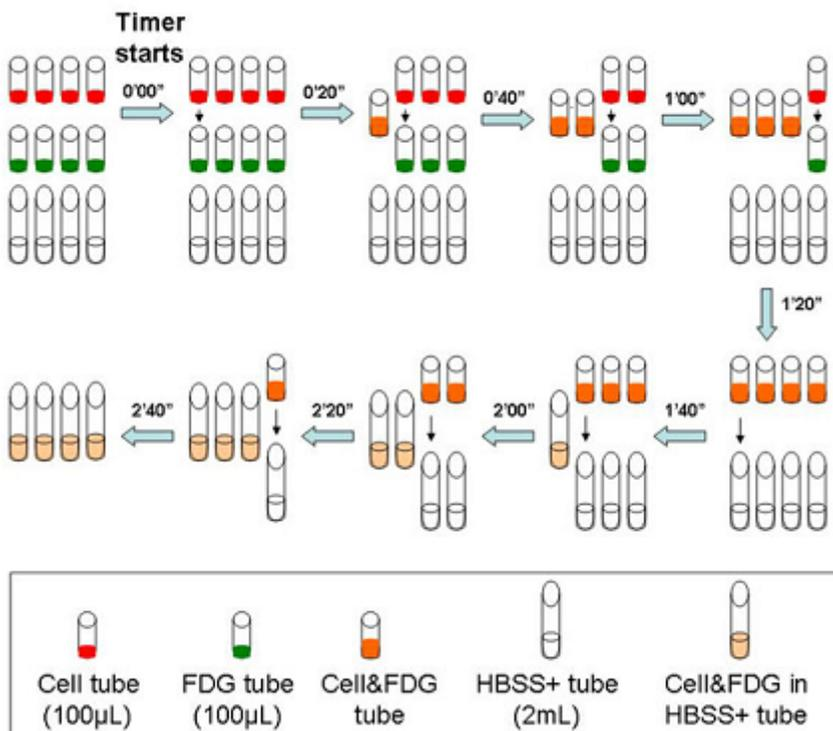

Figure 1
control stock solution by 1:10. Aliquote 100 μ L FDG working solution or control solution to amber tubes. c) Prepare 15mL tubes with 2mL HBSS+ buffer and keep on ice. d) Make sure all the sets of cell sample tubes, FDG tubes and 2mL HBSS+ tubes are ready for the following steps. e) Prewarm cell sample tubes and corresponding FDG (or control) tubes in 37°C water bath for 10min. 2mL HBSS+ tubes are kept on ice during loading. f) Follow the FDG loading strategy shown in Figure 1 to load FDG into cells. Transfer prewarmed cells into corresponding FDG tubes. Mix thoroughly. Return to 37°C bath for exactly 1 min. Stop the FDG loading at the end of one min by transferring mixture into 2mL ice-cold HBSS+. g) Keep on ice for 1.5 hours to allow accumulation of FITC release from FDG in LacZ+ cells. h) Centrifuge at 1500rpm for 7 minutes, discard supernatant and resuspend cell pellets with 100 μ L ice-cold HBSS+ buffer.
Step 1.e. Take care to remove any remaining harvesting medium or buffer in the tube. Single cell suspension has to be made in HBSS+ buffer, which has been tested to work best for FDG loading. Step 2.c-e. To make sure to incubate cell and FDG mixtures for exactly 1 minute, the FDG loading strategy in Figure 1 should be used. Step 2e. From this step downward, all samples needs to be kept on ice at all.
1. Dim LacZ+ cell signal. There are three possible issues: a) Make sure that the volume ratio of cell to FDG is exactly 1:1. b) Make sure to follow the FDG loading strategy shown in Figure 1. c) The cells have to be kept on ice after FDG loading. Each step should be performed on ice. Even when the FDG-loaded cells are carried around, they have to be on ice.